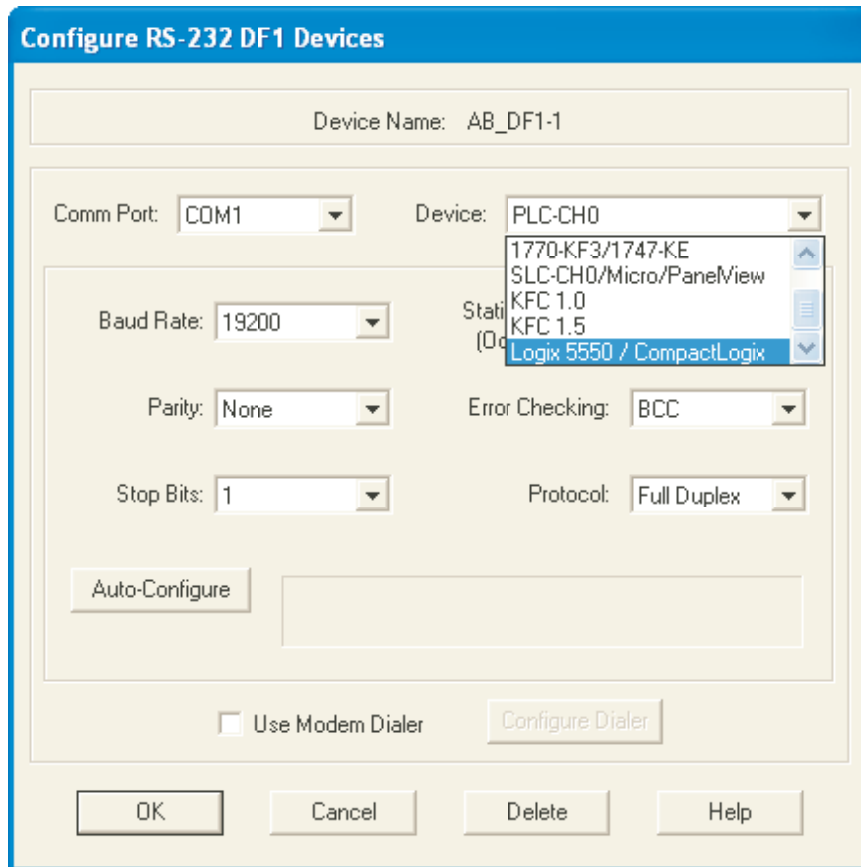

Figure 10-4: Configure RS232 DFI Devices
7. Click on 'Add New' and enter a suitable Driver Name in the pop-up window that then appears. Click on 'OK'. The 'Configure RS-232 DF1 devices' window opens (Figure 10-4).